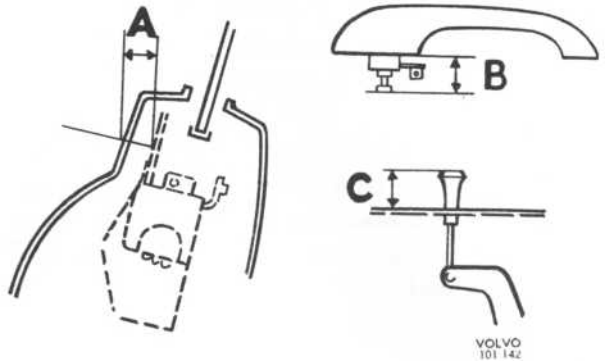

Fig. 28. Adjusting measurements for lock
2. Adjust measurement A, Fig. 28 to 15 ± 0.5 mm (0.59 ± 0.02 ") by turning the lock. Tighten the lock hard. If it is not possible to obtain the correct measurement for A by turning the lock after it has been tightened up as near to A as possible, the remaining adjustment is done by bending the lever (5). Measurement A must be checked within the specified tolerances.
3. The remote control (12) with split pin (11) fitted is pushed backwards so that the lever (9) stops against the lock (10). The remote control is screwed on in this position. Remove the split pin (11).
4. Fit the lever (7) for the inner locking knob (15).
2. Adjust measurement A, Fig. 28 to 17 ± 0.5 mm (0.67 ± 0.02 ") by turning the lock. Tighten the lock hard. If it is not possible to obtain the correct measurement for A by turning the lock after it has been tightened up as near to A as possible, the remaining adjustment is done by bending the lever (5). Measurement A must be checked within the specified tolerances.
3. The remote control (13) with split pin (12) fitted is pushed backwards so that the lever (10) stops against the lock (11). The remote control is screwed on in this position. Remove the split pin (12).
4. Fit the lever (17) and connect the link (16) to the lever (1).
5. Set the lever (7) in the locked position, i.e. backwards against the lock and lever (14) in the rear catch position. Check through the control hole (12) that the lever moves fully to the catch position. In this position the lever (14) is locked to the link (16) with screws at the clips (15). Check that the link (16) does not rub against the inner plate of the door. On the other hand it must not be bent out so much that it rubs against the screws of the inner trim moulding.
1. Check that measurement B, Fig. 28= 15 ± 1 mm (0.59 ± 0.04 "). Adjust if necessary. Tighten the locknut (2) on the screw (3), Fig. 26.
2. Fit the outer handle (1) with link (6) fitted on.
3. Connect the link (6) to the lever (14). Adjustment is done by selecting one of the three holes so that the recess and hole in the outer handle coincide. This is done by inserting a pin (4) into the hole in the outer handle as shown in the figure. They should come in line when the locking knob (15) is pressed down, i.e. the lever (7) is pressed down and the lever (8) moved backwards against the lock.
1. Check that the measurement B, Fig. 28= 15 ± 1 mm (0.59 ± 0.04 "). Adjust if necessary. Tighten the locknut (2) on the screw (3), Fig. 26.
3. Connect the link (6) with the lever (14). The lever in the handle is set in such a position that a pin (4) (3 mm= 0.12 ") can be inserted in the hole in the handle. Adjusting is done by screwing the link up or down so that the loop of the link (6) comes in line with the lever (14) on the lock.
1. Check that the measurement B, Fig. 28= 15 ± 1 mm (0.59 ± 0.04 "). Adjust if necessary. Tighten the locknut (2) on the screw (3), Fig. 27.
3. Connect the link (6) with the lever (8). The lever in the handle is set in such a position that a pin (4) (3 mm= 0.12 ") can be inserted in the hole in the handle. Adjusting is done by screwing the link up or down so that the loop of the link (6) comes in line with the lever (8) on the lock.
With the locking knob in the pressed-down position, measurement C, Fig. 28 should be 12 ± 1 mm (0.47 ± 0.04 ") for both the front and rear door.